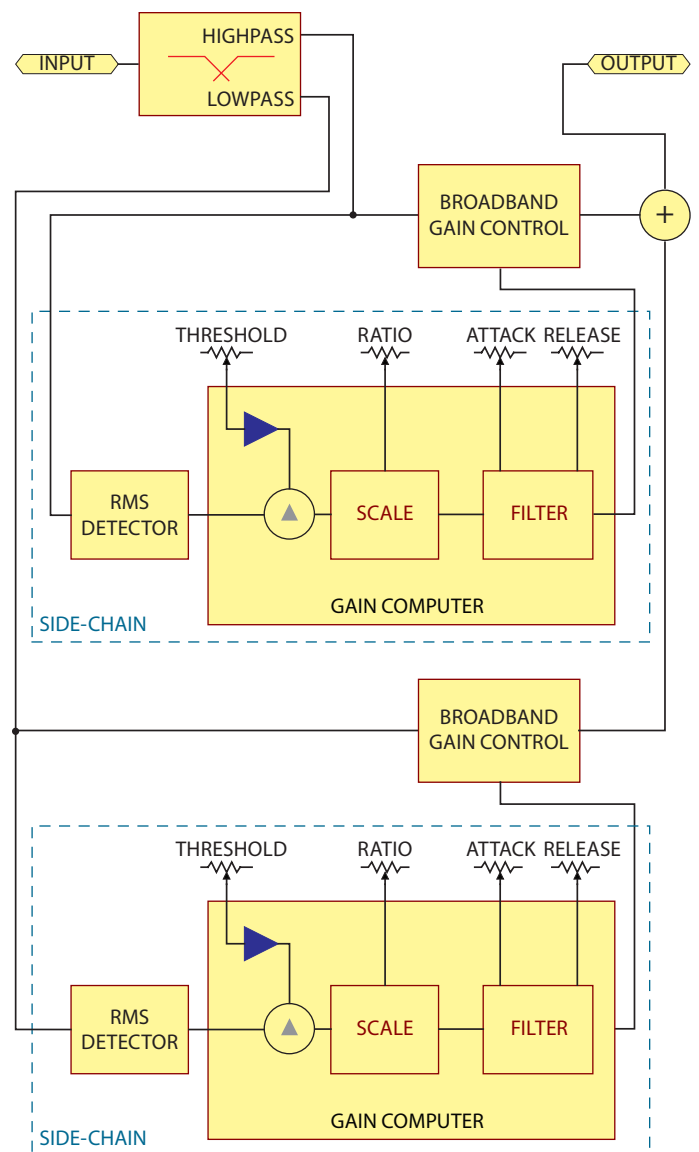

Figure 7. Split-band compressor block diagram.
**Split-band Compression** divides the incoming signal into two or more frequency bands as shown in Figure 7. Each band has its own side-chain detector and gain reduction is applied equally to all frequencies in the passband. After dynamics processing, the individual bands are re-combined into one signal. The handling of in-band signals is the same as for the general-case compressor shown above.